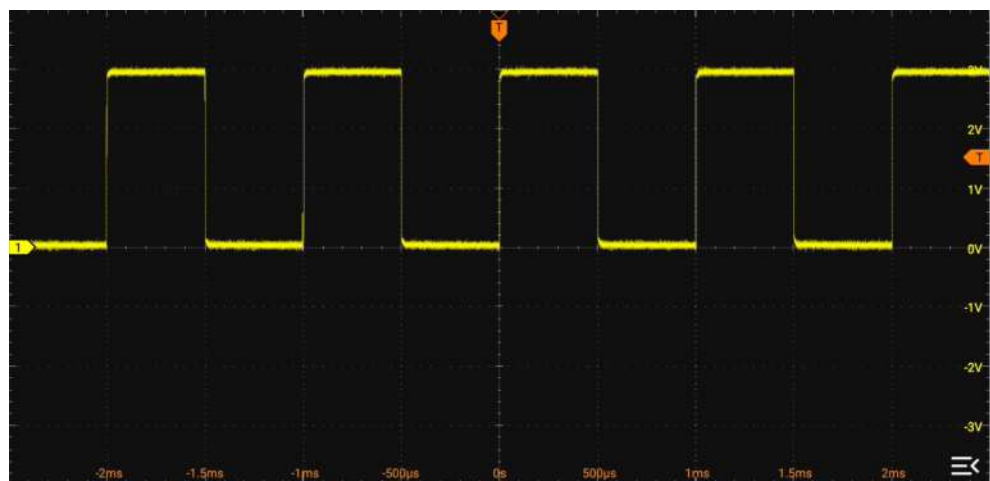

**Figure 4.12 Use the Compensation Signal**
2. Connect the ground alligator clip of the probe to the "Ground Terminal" as shown in Figure 4.12.
3. Use the probe to connect the input terminal of CH1 and the "Compensation Signal Output Terminal" of the probe, as shown in Figure 4.12.